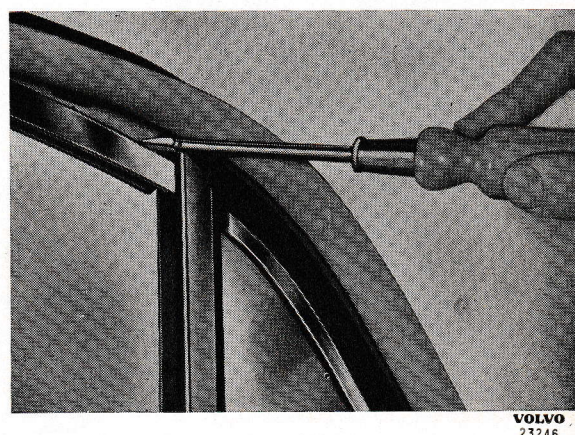

Fig. 23. Removing the upper guide strip.
4. Remove the upper guide strip with a screwdriver, see Fig. 23.